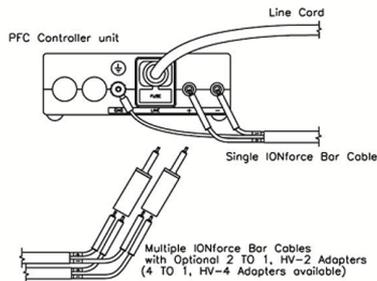

Figure 2. IONforce Bar Connections to PFC Controller Unit
8. Insert the polarized plugs from the HV power cord into the matching polarized connector positions in the Controller unit. Connect the green wire terminal to the grounding stud at the Controller unit. Tighten the nut securely. See Figures 2 and 3.